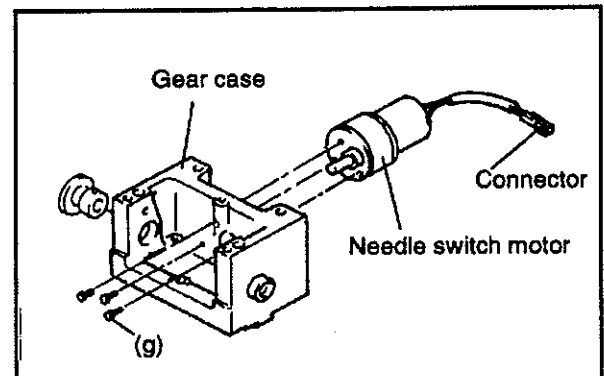

FIG.4
- (6) Remove the connector and three retaining screws (g), and the thread change motor (Fig.4).